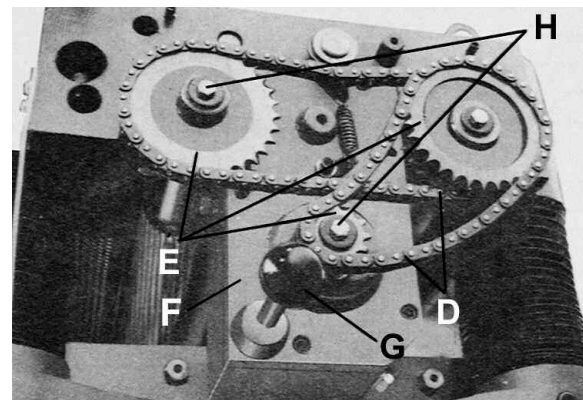
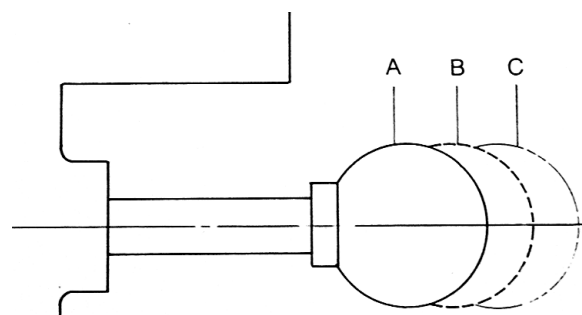

FIGURE 27
FIGURE 28
Your planer is equipped with a spiral, serrated infeed roller and a solid steel outfeed roller. When the feed rollers are engaged, they turn to feed stock. The feed rollers slow down automatically when the planer is under heavy load. The feed rollers are driven by chains (D) Fig. 27 and the sprockets (E), which take power directly from the cutterhead through the oil gear box (F).
There are two feed speeds in the gear box, they are controlled by using the speed shift lever (G) Fig.27. When the speed shift lever is completely pushed in (A) Fig.28, the feed speed rate is 9.1m/min (30 ft/min), when it is completely pulled out (C) the feed speed rate is 4.8m/min (16 ft/min) and the center position (B) is a neutral setting.